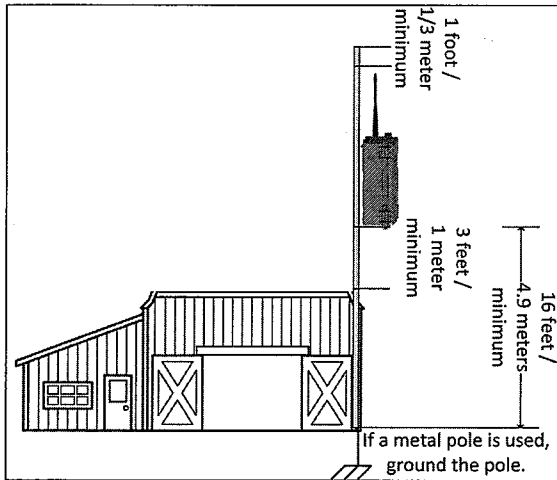

Figure 10: Lightning Rod Setup
- The antenna must be installed at least 5 meters/16 feet above ground (refer to Figure 10).
- Antenna pole (refer to Figure 10):